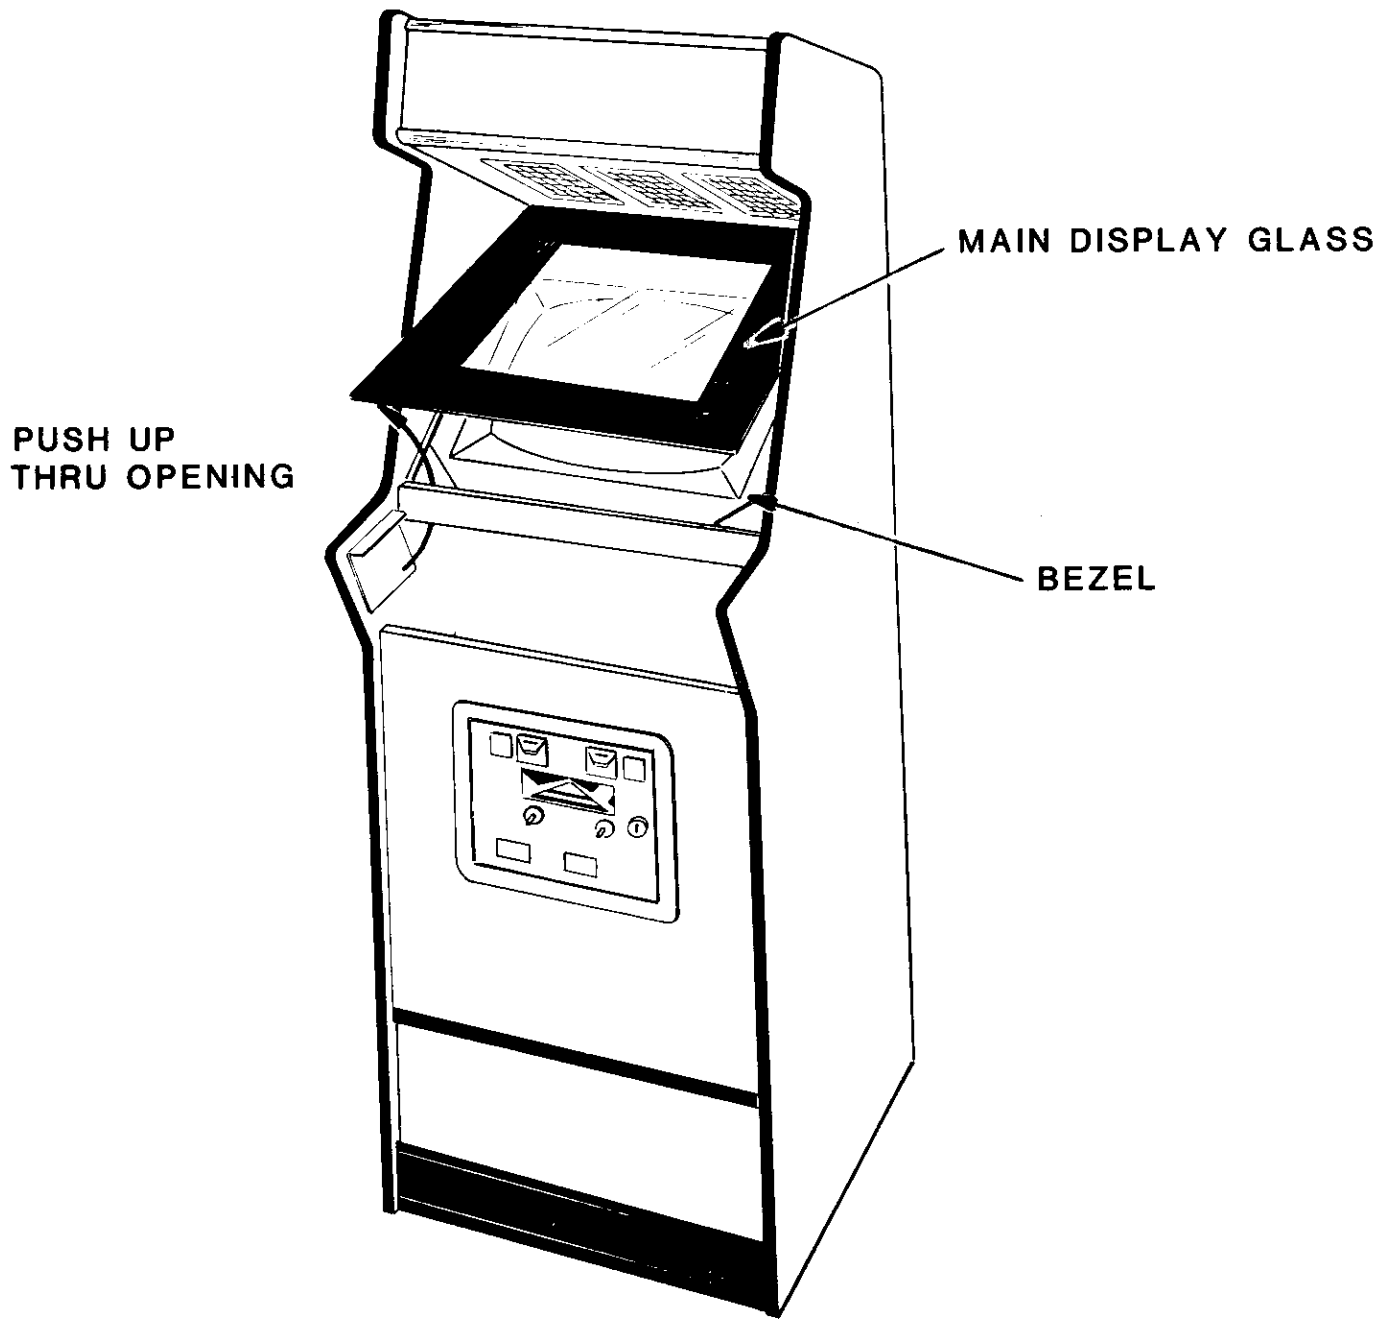

FIG. 15
- c. Remove the screws which secure the T.V. bezel in place and lift it out. See Figure 15.